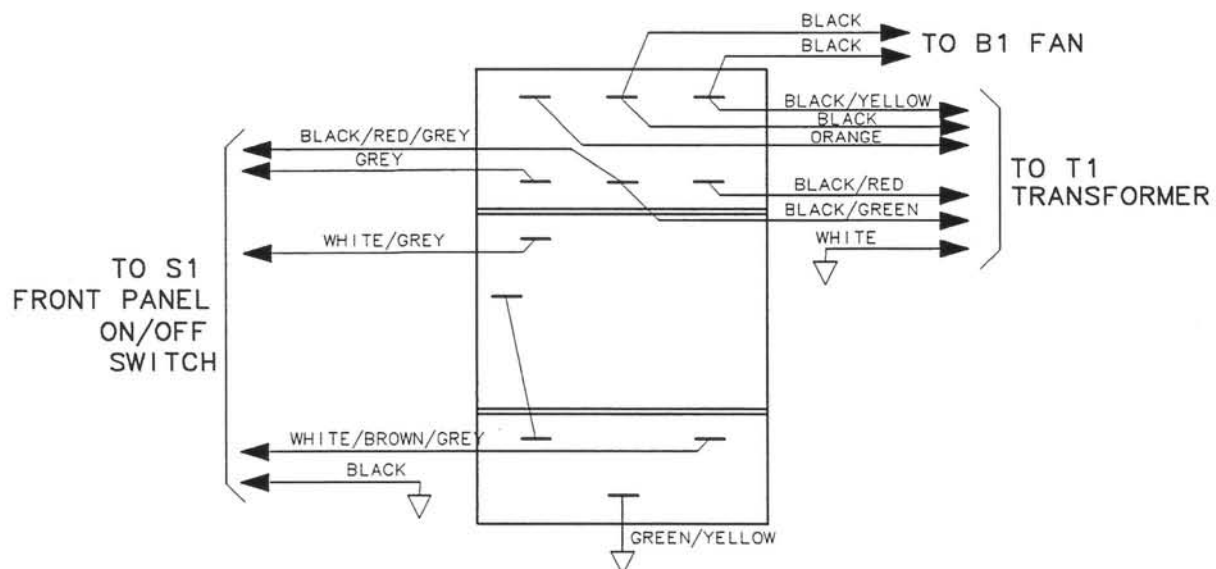

Figure 6-3. Wire Connections to Line Module FL1
10. When you replace the transformer, refer to Figure 6-3 for the location of the wires connected to the line module.